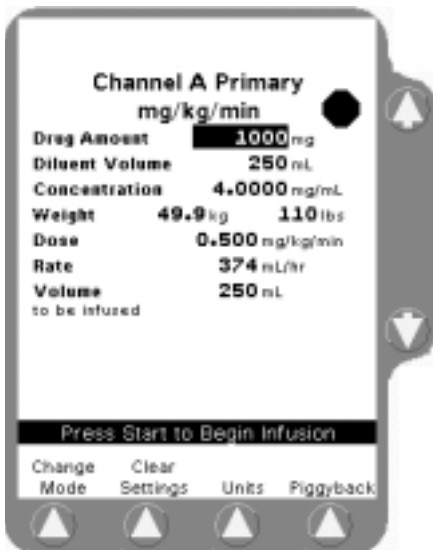

Figure 5-19 Clear Stored Settings
- Press the **Select** soft key to display the Dose Programming screen (Figure 5-19), which allows you to enter patient weight.